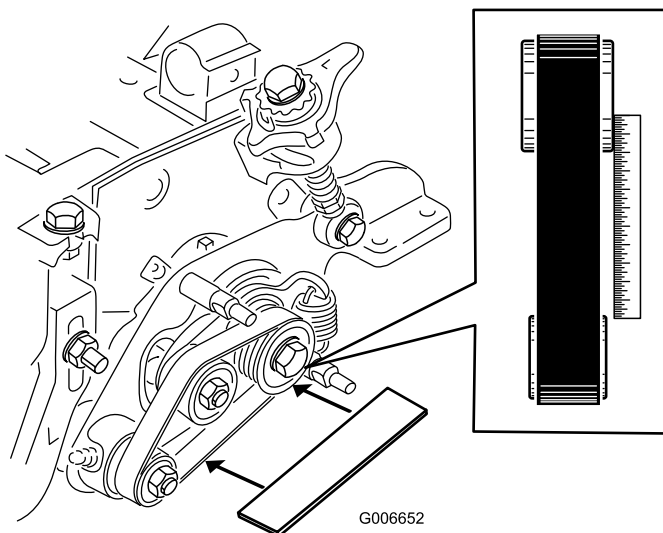

Figure 12
- Lay a straight edge along the outer face of the **drive** pulley (Figure 12).